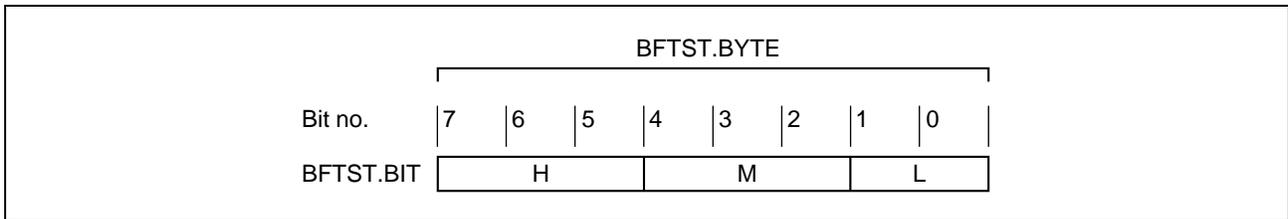

Figure 2 BFTST Structure
- (1) To confirm BFLD instruction operation, a 1-byte RAM area (BFTST) is divided into three as a structure. The BFTST structure is shown in figure 2.